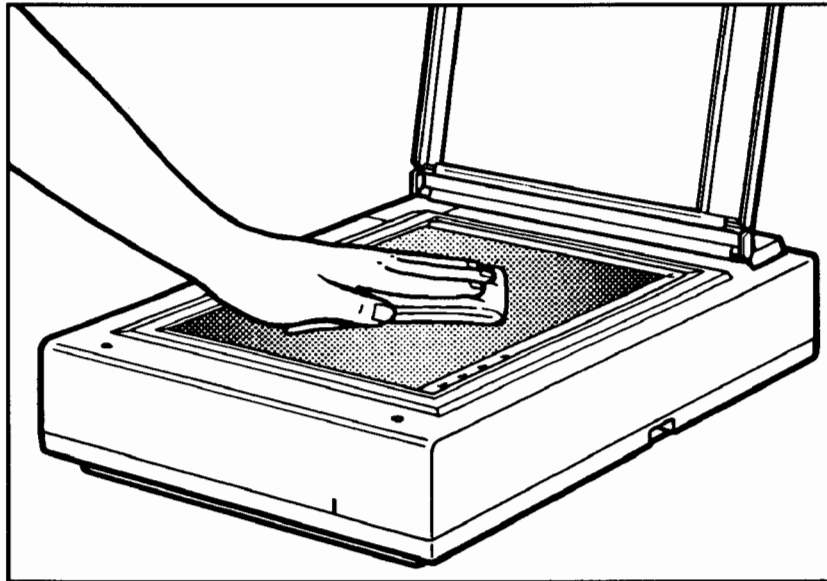

Figure 9. Cleaning the Copyboard Glass
2. Using a soft cloth and a mild detergent, gently wipe the copyboard glass, copyboard cover and the exterior of the scanner. See figures 9 and 10. Avoid spraying cleaning solution directly on the copyboard glass as the spray could penetrate below the glass and contaminate internal mirrors and lenses.